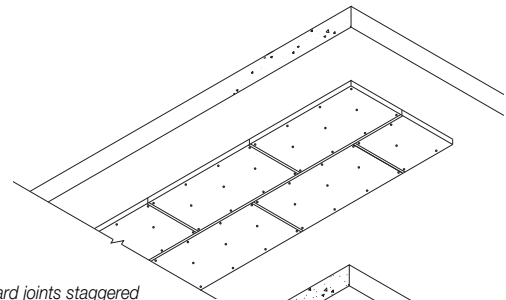
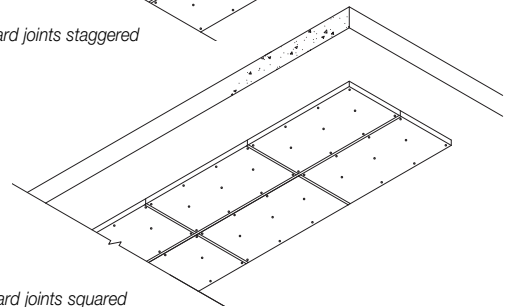

Figure 5 Board joints staggered
Figure 6 Board joints squared
2. Board joints can be either staggered (see Figure 5) or squared (see Figure 6) and taped with a minimum 96 mm wide silver *Kingspan Insulation Tape*. 4 No. fasteners along each length - no less than 50 mm - no more than 150 mm from edge of board, 3 No. fasteners along the middle (offset from edge positions as per diagram Figure 3).